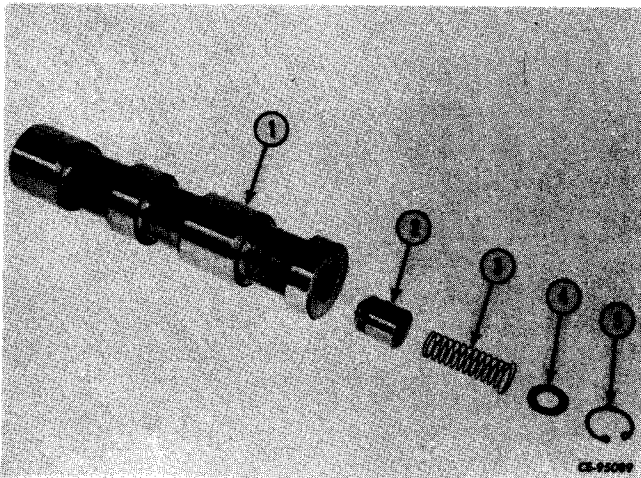

Figure 11-44
Remove snap ring (5, Fig. 11-44). Slide washer (4), spring (3) and check (2) from plunger (1).
Lubricate check (2, Fig. 11-44) with hydraulic fluid and install in bore of plunger (1). Install spring (3) in check. Install washer (4) and secure with snap ring (5).